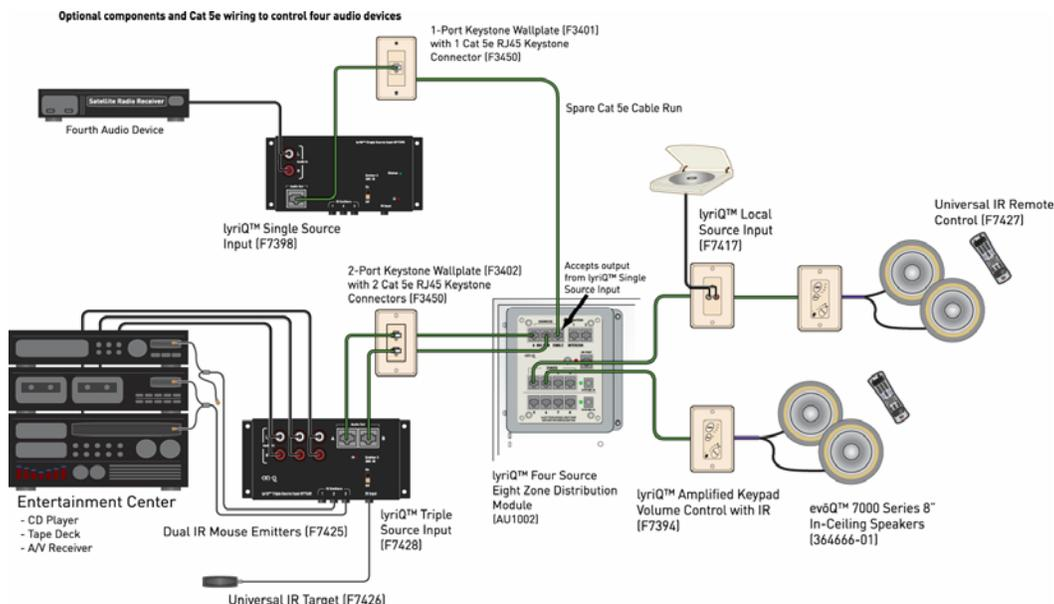

Figure 5
- The output from FOUR audio devices can be distributed throughout the house by using a lyriQ™ Single Source Input Unit (P/N F7398) along with the Triple-Source Input. Plan ahead for this by running a third Cat 5e cable from the Enclosure to the room containing the source audio equipment (see **Figure 5**).
NOTE: Refer to Figure 5 on the prior page while performing the following installation: